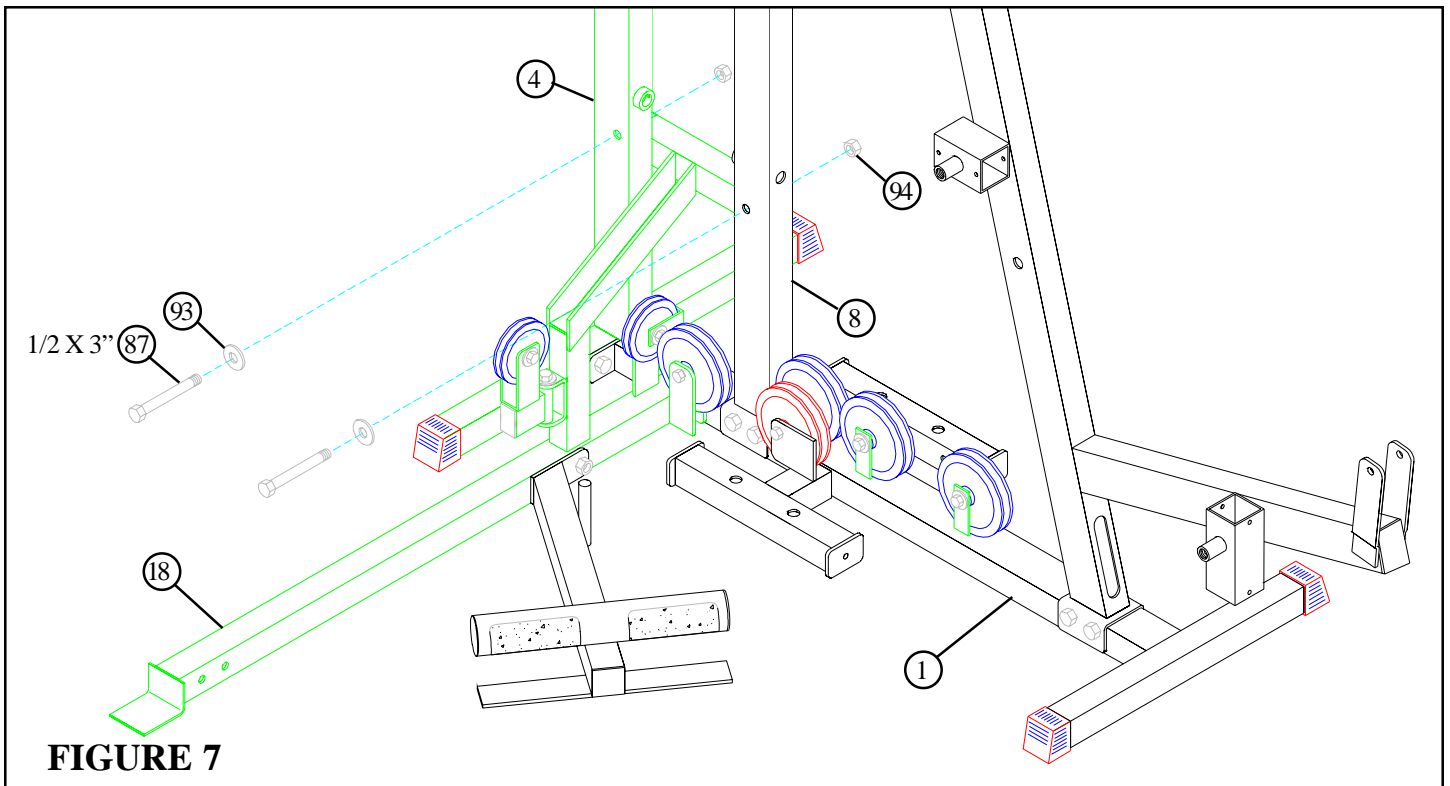

FIGURE 7
- **LOOSELY** assemble the PRESS BASE (18) to the REAR (4) & MIDDLE UPRIGHTS (8) using two 1/2 X 3" BOLTS (87), two 1/2" WASHERS (93), and two 1/2" LOCK NUTS (94). See FIGURE 7.